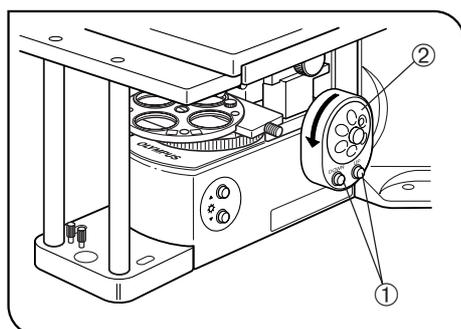

Fig. 51
Adjusting the Confocality of Objective (Figs. 51 & 52)
4. The objective to use the washer is determined by the rotation direction of the fine adjustment dial ②. (Fig. 51)
5. Remove the objective ③, fit the washer ⑤ with the required thickness on the screw ④, and then attach the objective again.